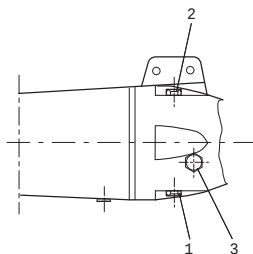

Fig. 30 Oil check and oil filling
If required, fill oil into the gearbox/shaft seal housing through the oil filling hole (pos. 2). See fig. 30.